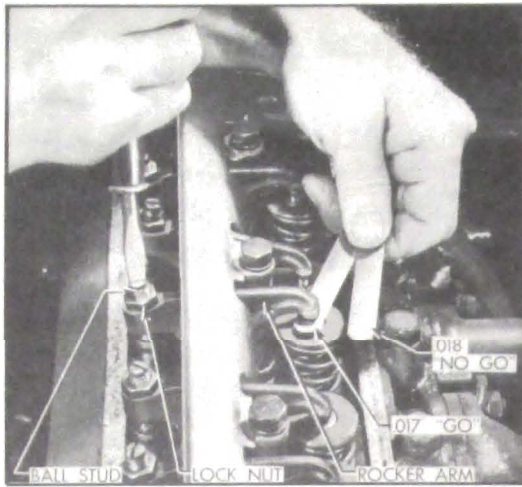

Figure 2-20—Adjusting Valve Lash
5. Where the lash is either too tight or too loose, loosen the lock nut and adjust the ball stud until a slight drag is felt on a .017" feeler gauge placed between the valve stem and rocker arm. Tighten lock nut and recheck lash with the .017" "go" and .018" "no go" feeler gauges. See figure 2-20.